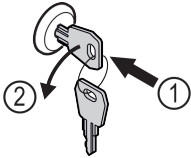

Fig. 143
- ▶ Insert the key. Fig. 143 (1)
- ▶ Turn the key anticlockwise by 90°. Fig. 143 (2)